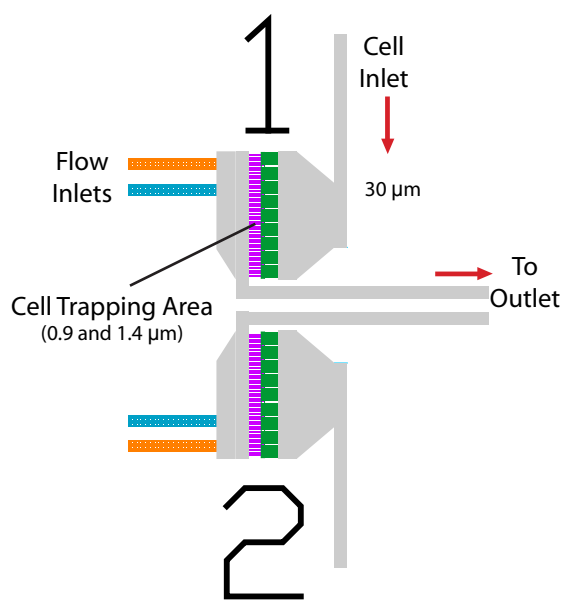

Figure 2 Trap Area
5. Place assembly on an inverted microscope. Focus on the center of the "imaging" area. The trapping region has 48 parallel 10x100 micron regions with a 0.9 micron ceiling height, followed by 9 parallel 100x100 micron traps with a 1.4 micron ceiling height (Figure 2).